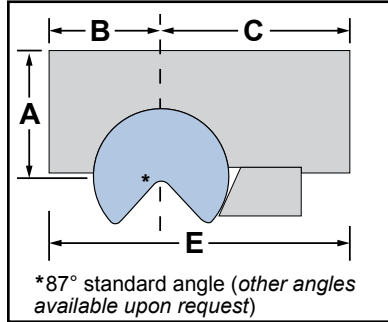

Figure 1
- For side profile dimensions, please see Figure 1 on page 6 (DLI & DLH side profile are the same)